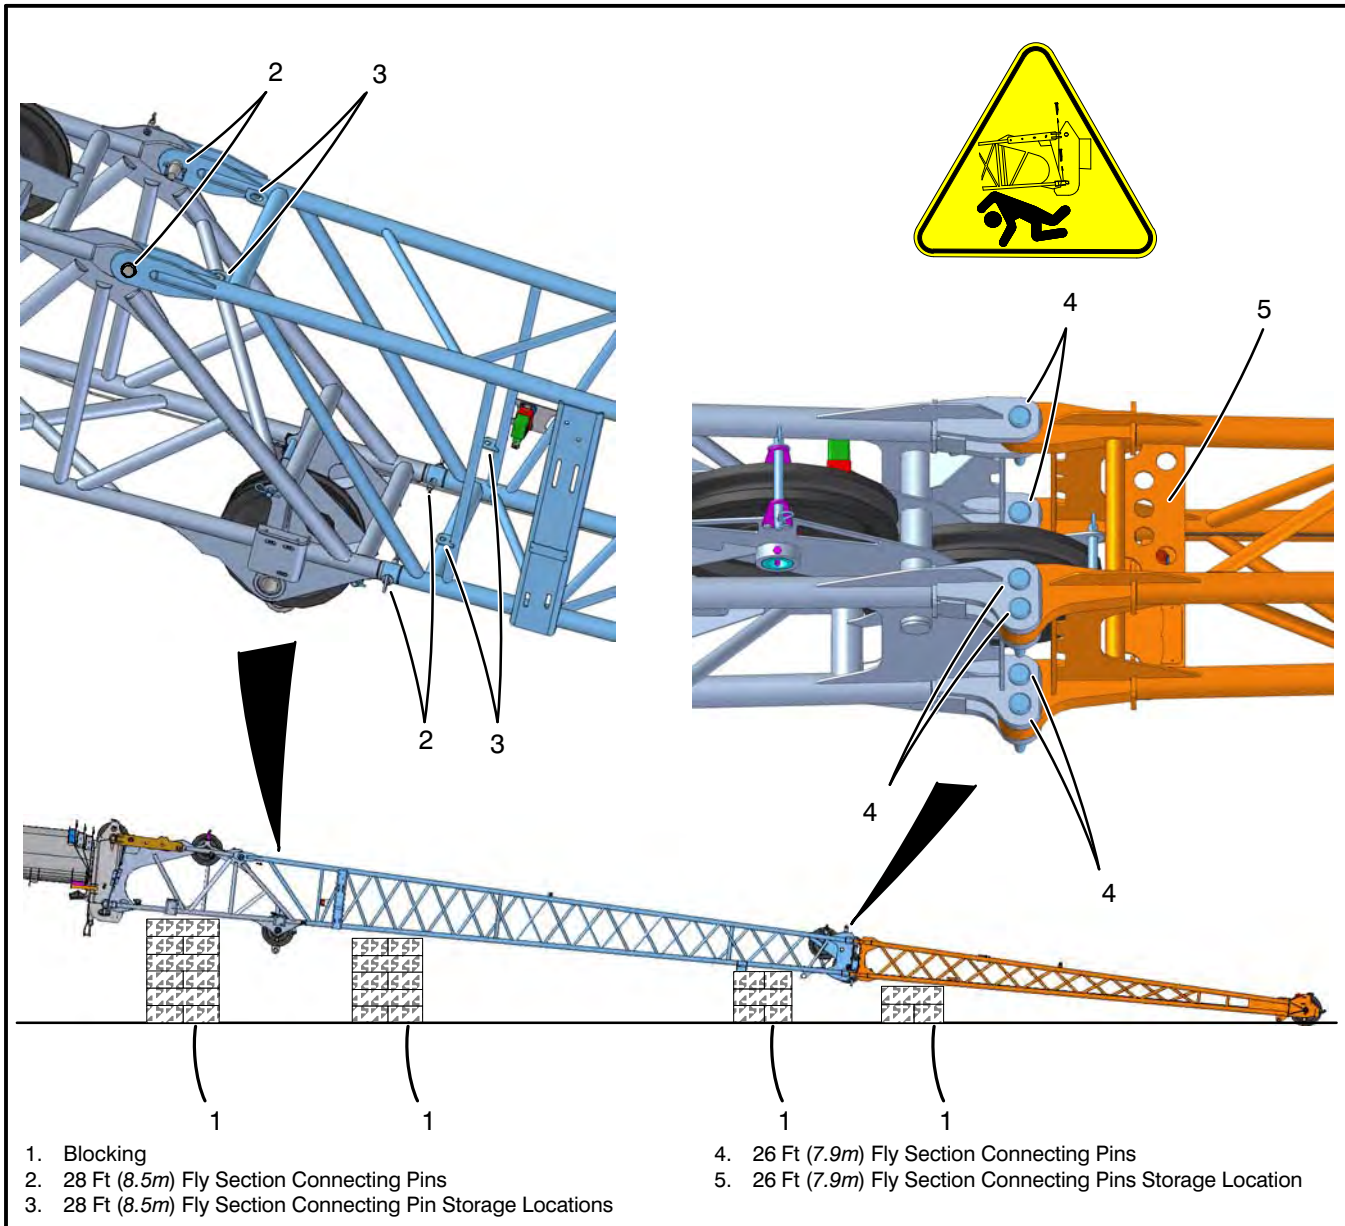

Figure 4-110
11. Securely block up the fly to support it. Refer to Figure 4-110. The 10 ft (3.0m) fly section weighs approximately 1,025 lb (465kg), the 28 ft (8.5m) fly section approximately 995 lb (451kg), and the 26 ft (7.9m) fly section approximately 742 lb (337kg).